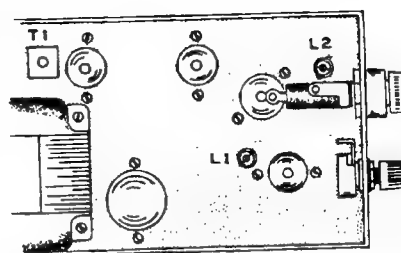

Figure 2
- ( ) Referring to Figure 2, use the prepared alignment tool to turn the slug of coil L2 counterclockwise until it is just snug.
- ( ) Referring to Figure 2, use a small fiber screwdriver alignment tool and very carefully turn the slug at the top of T1 for maximum height of the IF signal pip.
- ( ) Referring to Figure 2 (Page 38), use the prepared alignment tool to turn the slug of coil L2 counterclockwise until it is snug.
( ) Referring to Figure 2, use a small fiber screwdriver alignment tool and very carefully turn the slug at the top of T1 for maximum height of the IF signal pip.